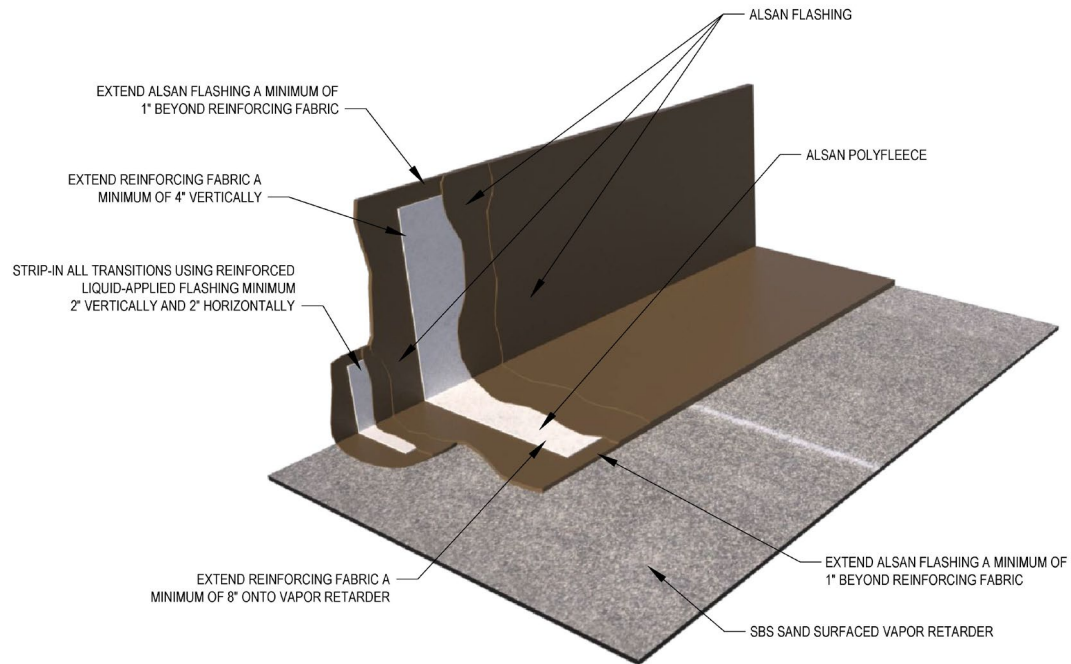

Figure 4.2a ALSAN® FLASHING Wall/Curb Flashing on Vapor Retarder
- SOPREMA® ALSAN® FLASHING liquid-applied, reinforced flashing is recommended for SBS modified bitumen vapor retarders to seal roof transitions, terminations and penetrations. Refer to Figures 4.2a through 4.2b.
- Ensure POLYFLEECE extends a minimum of 4 in vertically and 8 in horizontally at roof terminations, transitions and penetrations. Refer to Figures 4.2a through 4.2b.